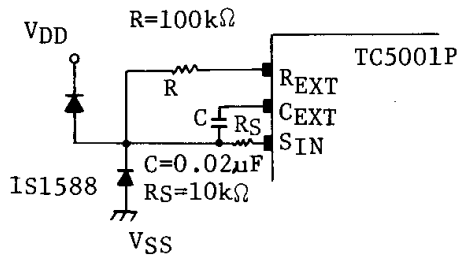
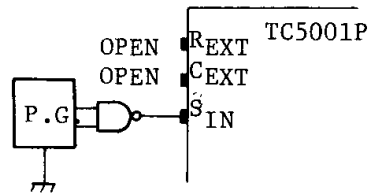

Fig. 1
Fig. 2
- (2) Arbitrary digit can be made real time output (completely static) by making SCAN signal DC.
- (3) The digit pulses in synchronism with SCAN signal for dynamic display appear at the digit output terminals (T₁, T₂, T₃ and T₄). The digit output terminals (T₁, T₂, T₃ and T₄) are used for the digit selection circuit and for arbitrary digit zero suppress.
- (4) The digit pulse is activated by the falling edge of SCAN INPUT signal.
- (5) SCAN signal is supplied from the internal oscillator as shown in Fig. 1 or from the external one as shown in Fig. 2.